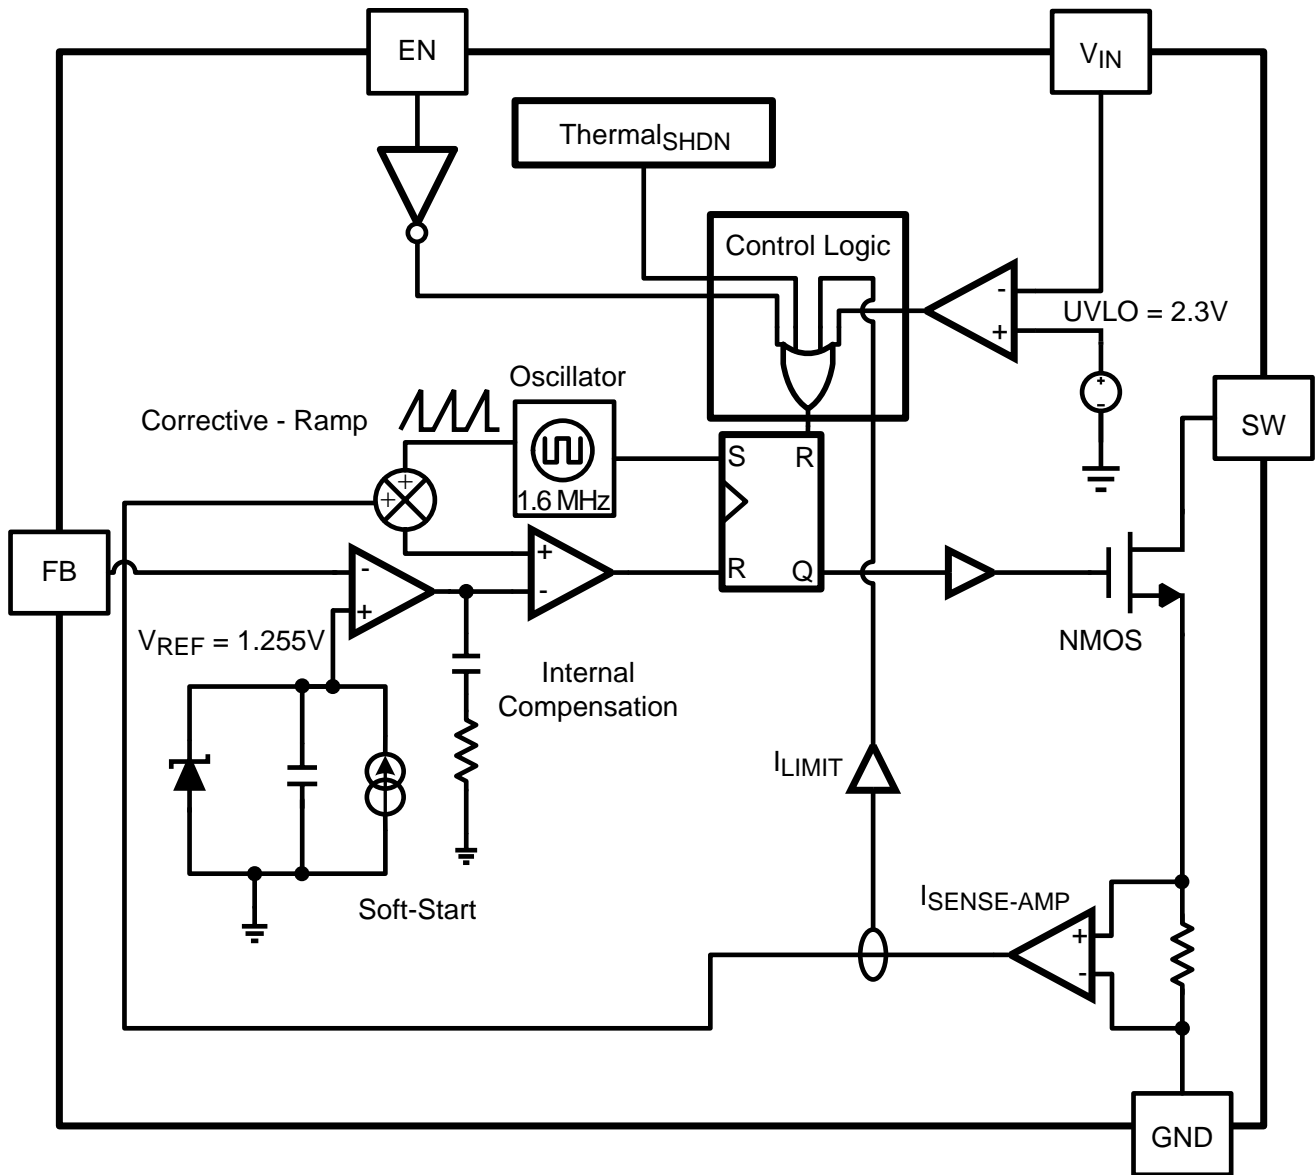
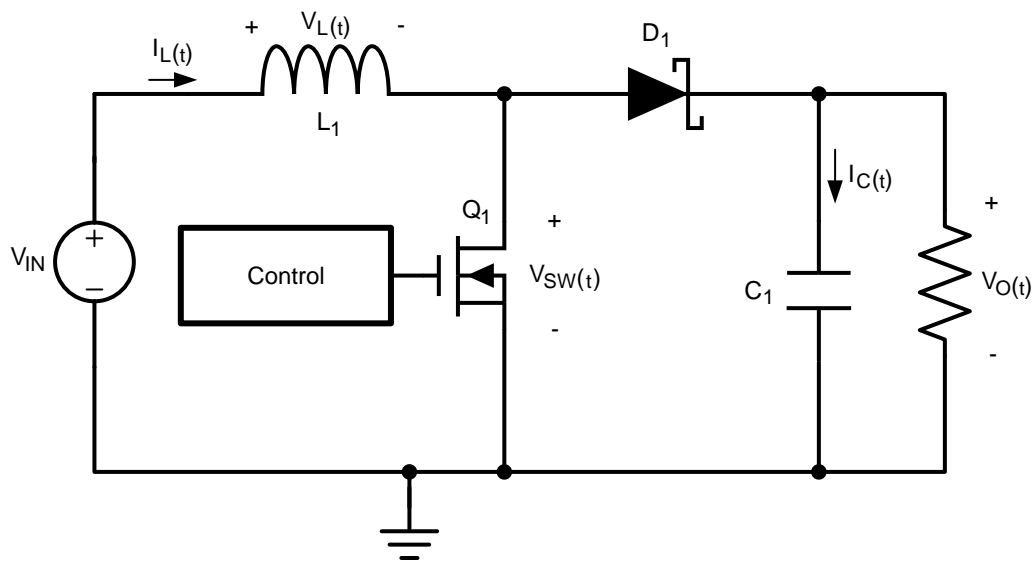
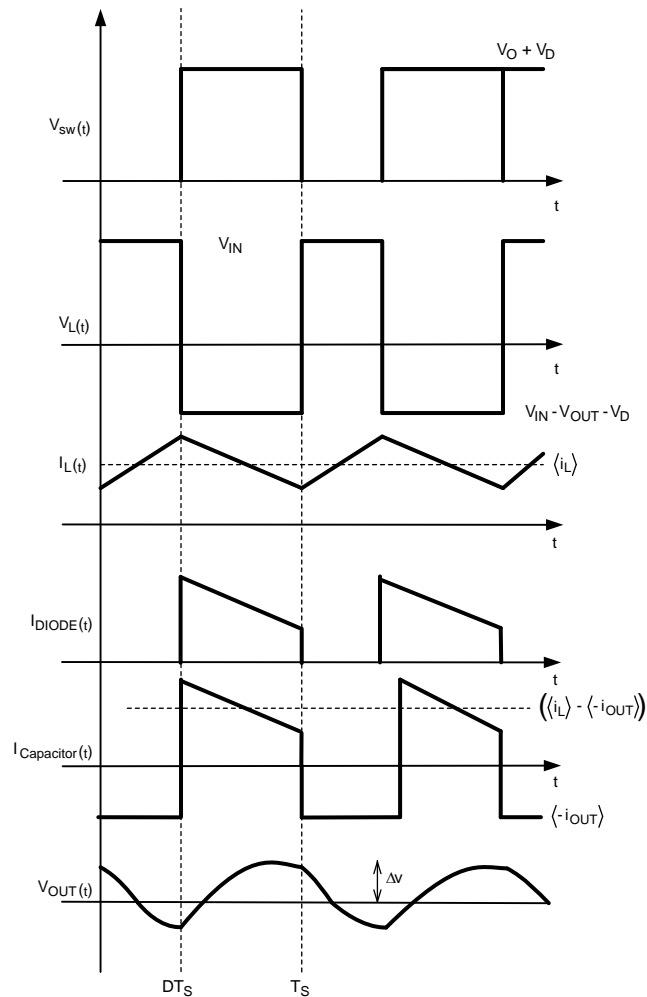

Figure 12. Simplified Block Diagram
Figure 13. Simplified Schematic
Figure 14. Typical Waveforms
The following operating description of the LMR62421 will refer to the Simplified Block Diagram (Figure 12) the simplified schematic (Figure 13), and its associated waveforms (Figure 14). The LMR62421 supplies a regulated output voltage by switching the internal NMOS control switch at constant frequency and variable duty cycle. A switching cycle begins at the falling edge of the reset pulse generated by the internal oscillator. When this pulse goes low, the output control logic turns on the internal NMOS control switch. During this on-time, the SW pin voltage (V_{SW}) decreases to approximately GND, and the inductor current (I_L) increases with a linear slope. I_L is measured by the current sense amplifier, which generates an output proportional to the switch current. The sensed signal is summed with the regulator's corrective ramp and compared to the error amplifier's output, which is proportional to the difference between the feedback voltage and V_{REF} . When the PWM comparator output goes high, the output switch turns off until the next switching cycle begins. During the switch off-time, inductor current discharges through diode D1, which forces the SW pin to swing to the output voltage plus the forward voltage (V_D) of the diode. The regulator loop adjusts the duty cycle (D) to maintain a constant output voltage .